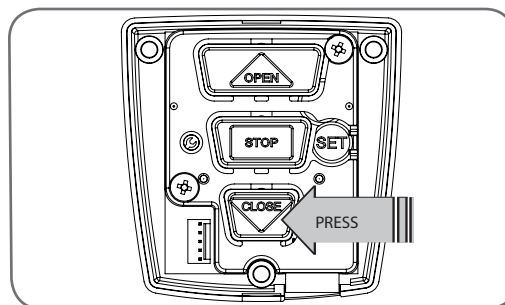

Fig 10.1
- Press and hold the CLOSE button (**Fig. 10.1**) - the shutter should start closing.